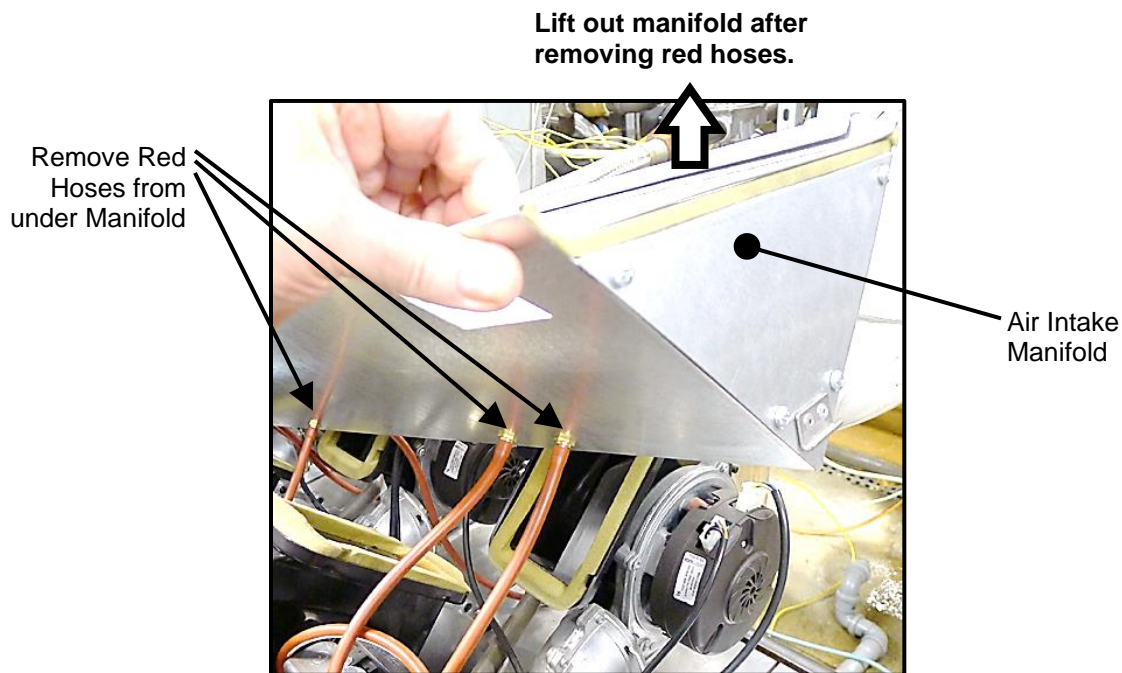

Figure 8-10: Removing Red Hoses and Manifold from Unit (Step 6)
6. Remove the red hoses (quantity depends on model) from bottom side of manifold (Figure 8-10), then lift entire manifold from the unit.